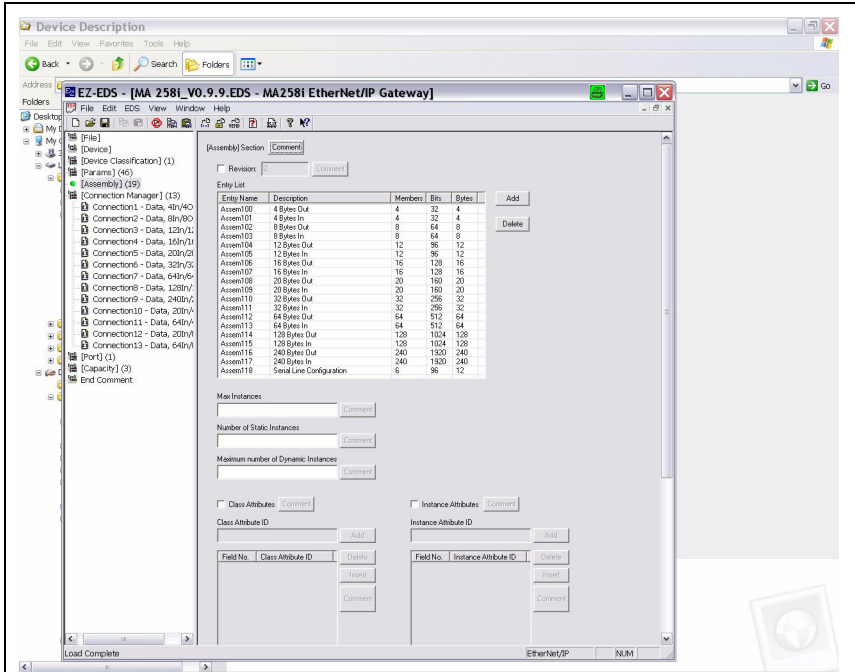

Figure 12.5: Assembly list
*) The possible data lengths are shown in figure 12.5. You can select the suitable byte number for your application here. Recommendations can be found in chapter "Specifications for Leuze end devices" on page 97.